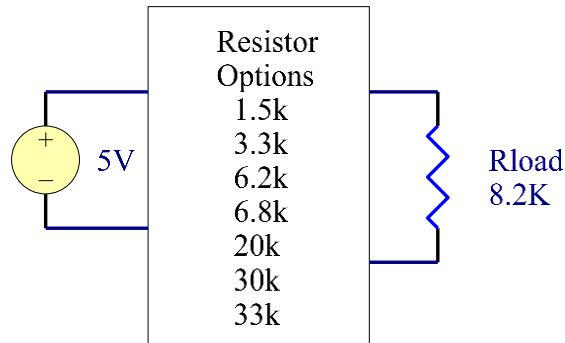

Figure 6: Circuit Design Schematic for Step 3
- 3) Here is a design problem. Your task is to design a circuit that will deliver 2.0V, or 2.5V, or 3.0V \pm 5% across a load resistor of 8.2k Ω . Figure 6 presents the problem.
The resistors available for use are listed in Fig. 6. There are design constraints as with most engineering design problems. In this case, your component cost must be less than 7 cents. You only need to pay for the resistors, which cost 2 cents each. The load resistor is free. Assume your time is free but only this one time ;-).